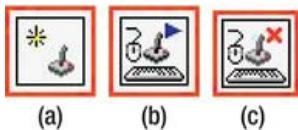

Figure 10-18. (a) The Initialize Joystick Function, (b) the Aquire Input Data Function, and (c) the Close Input Device Function
- *Initialize Joystick*—This function starts the communication between the computer and the joystick that you selected with the device index (see Figure 10-18(a)).
- *Acquire Input Data*—This function gets the data from the joystick device, such as button information and axis information (see Figure 10-18(b)).
- *Close Input Device*—This function closes out the input device session (see Figure 10-18(c)).